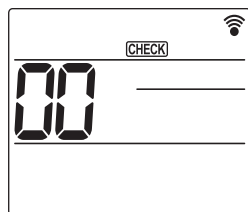

Fig. 6-7
- Press the **[MENU]** button for 5 seconds. (Fig. 6-7)